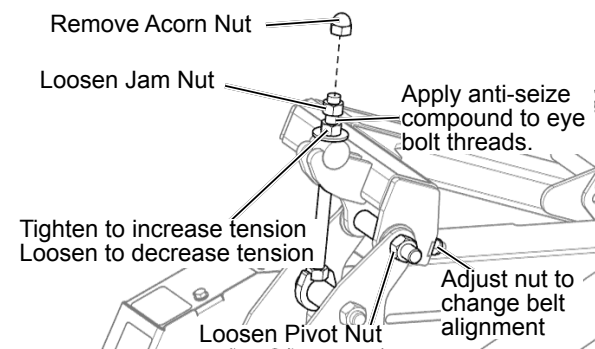

Fig. 96 - Knife Drive Belt Tension Adjustment
6. If the knife belt is not tracking in the center of the roller, you can adjust its alignment via the nut indicated in Fig. 96.